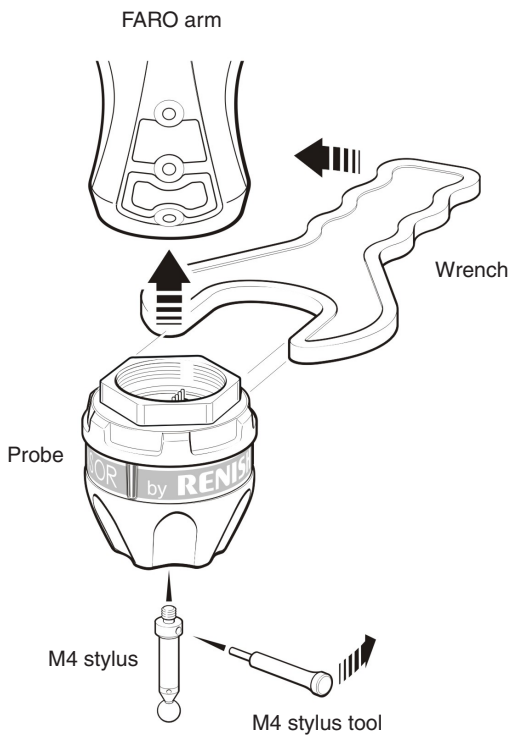

Figure 3 - Fitting the FARO SENSOR onto an arm
To fit the FARO sensor onto an arm, carry out the following procedure (see figure 3):
2. Locate the wrench (supplied) onto the probe body as shown in figure 3.
To fit a stylus onto the FARO SENSOR, carry out the following procedure (see figure 3):